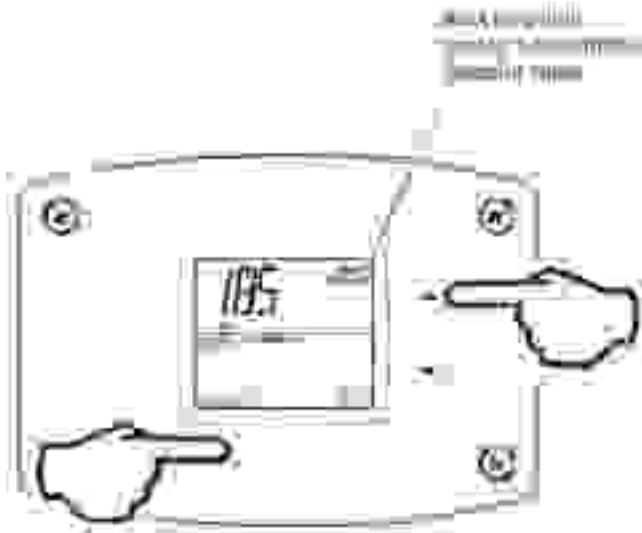

Fig. 33
1. Press 'Select' and 'Temperature Up' buttons together and hold for 3 seconds until 'Max Setpoint' is shown in the display (Fig. 33).